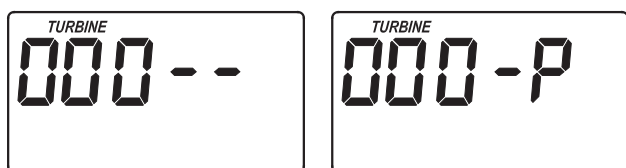
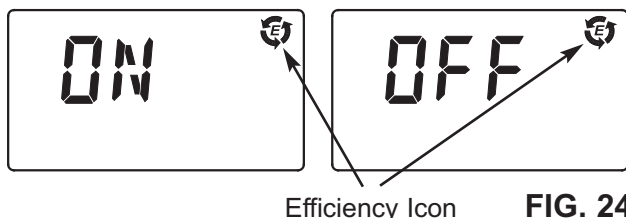

FIG. 23
FIG. 24
1. Press and hold the SELECT button until one of the screens in Figure 23 is displayed. Once in this display, press the SELECT button once and one of the two displays in Figure 24 is shown.